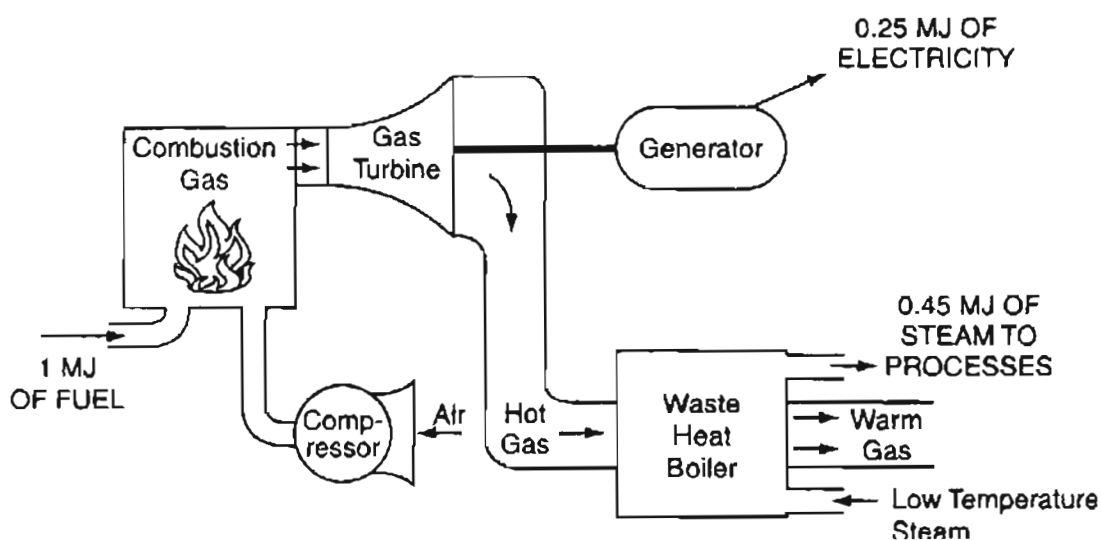

Figure SAT27.2P2
2. Cogeneration plants produce both electricity and steam. Figure SAT27.2P2 shows such a plant. What will be the percent fuel savings to get the electricity and steam from using the cogeneration plant in contrast to using two separate plants, one to produce 0.25 MJ of electric energy and one to produce 0.45 MJ of thermal energy in the steam?